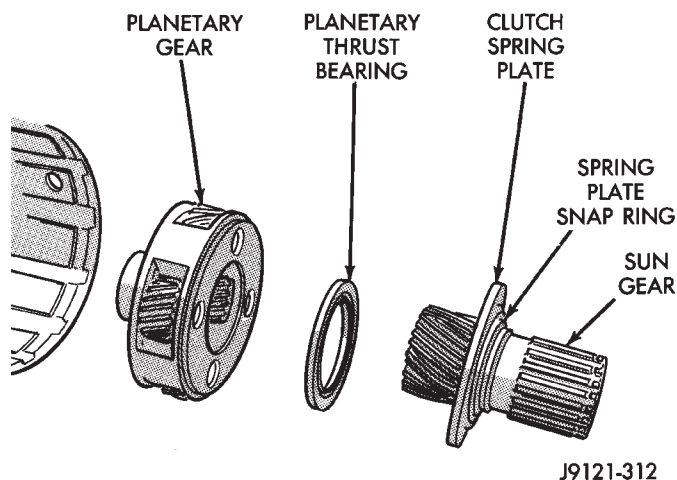

Fig. 211 Removing Sun Gear, Thrust Bearing And Planetary Gear
(2) Remove sun gear and spring plate. Then remove planetary thrust bearing and planetary gear (Fig. 211).